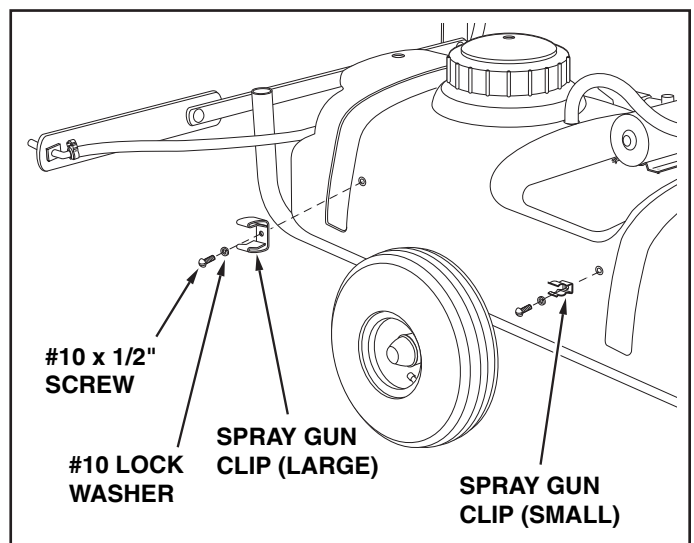

FIGURE 7
- Assemble the large and small spray gun clips to the side of the tank using two #10 x 1/2" screws and #10 lock washers. See figure 7.